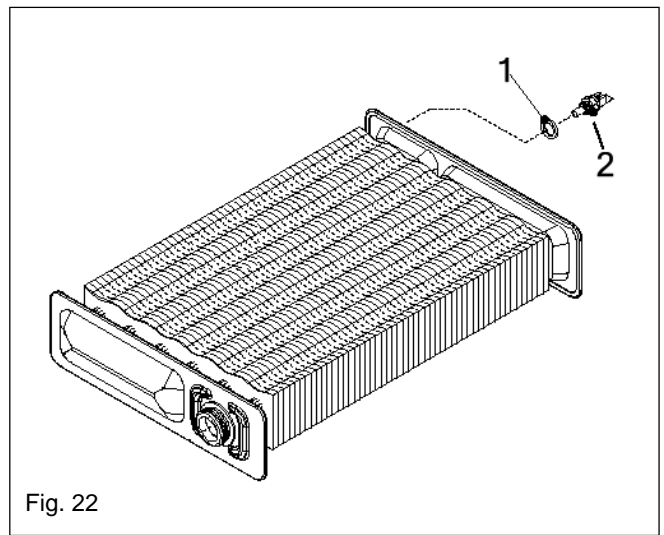

Fig. 22
6.10 PRIMARY THERMISTOR (see fig. 22)